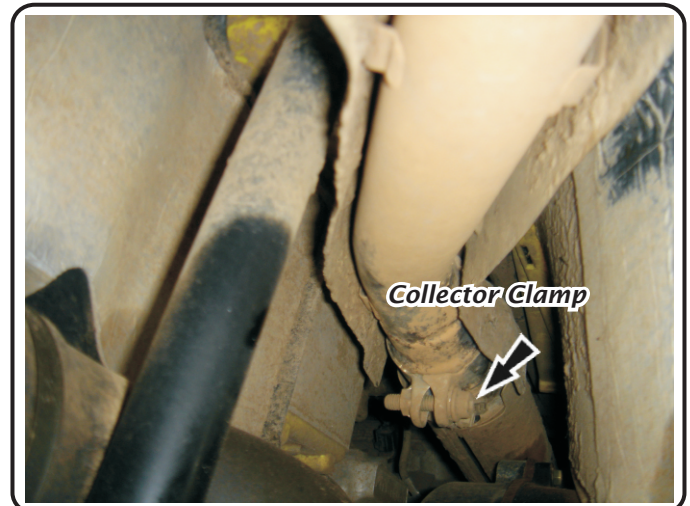

Fig. 1
- 1 Loosen stock header to tailpipe collector clamp. (See Fig. 1)